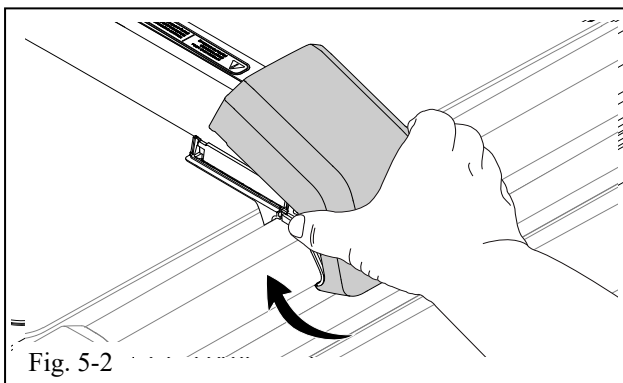
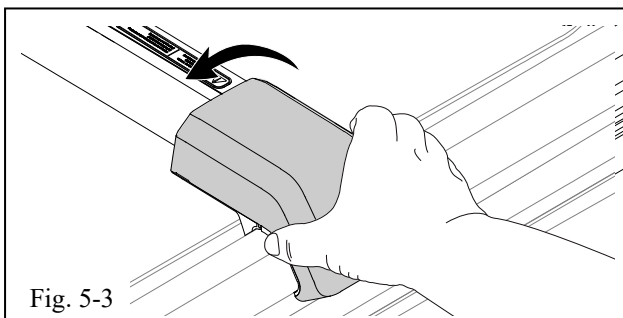

Fig. 5-2
Fig. 5-3
- (b) Install the cover by hooking the bottom of the cover under the stanchion (Fig. 5-2) and rotating it into place. (Fig. 5-3). Pinch with both hands to seat the cover and listen for the audible click as it snaps into place. Repeat for the other side.